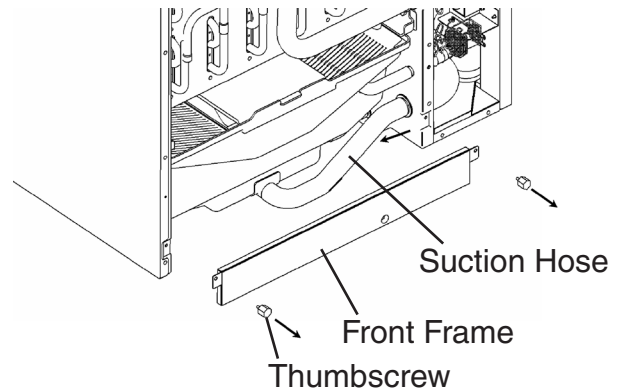

Fig. 3
- 3) Drain the water tank by removing the insulation panel, front frame and suction hose. (See Fig. 3.)